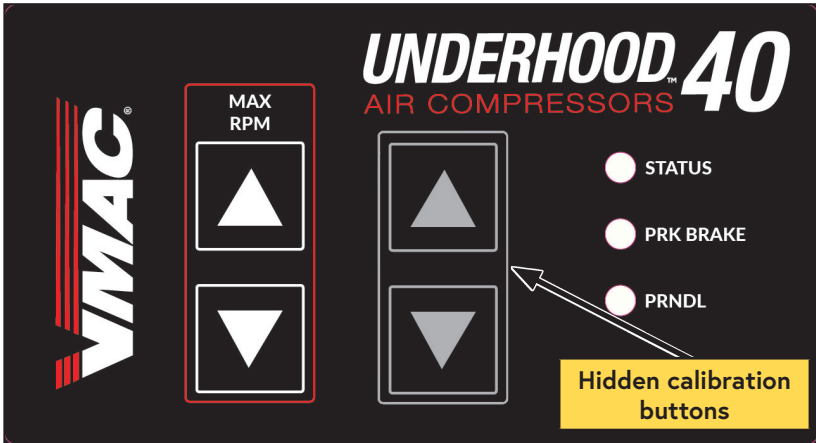

Figure 43 — DTC calibration buttons
- Press and hold the 2 hidden calibration buttons for several seconds until all of the LEDs turn on (this indicates the DTC is in "Idle Adjust Mode" and ready to calibrate) (Figure 43).